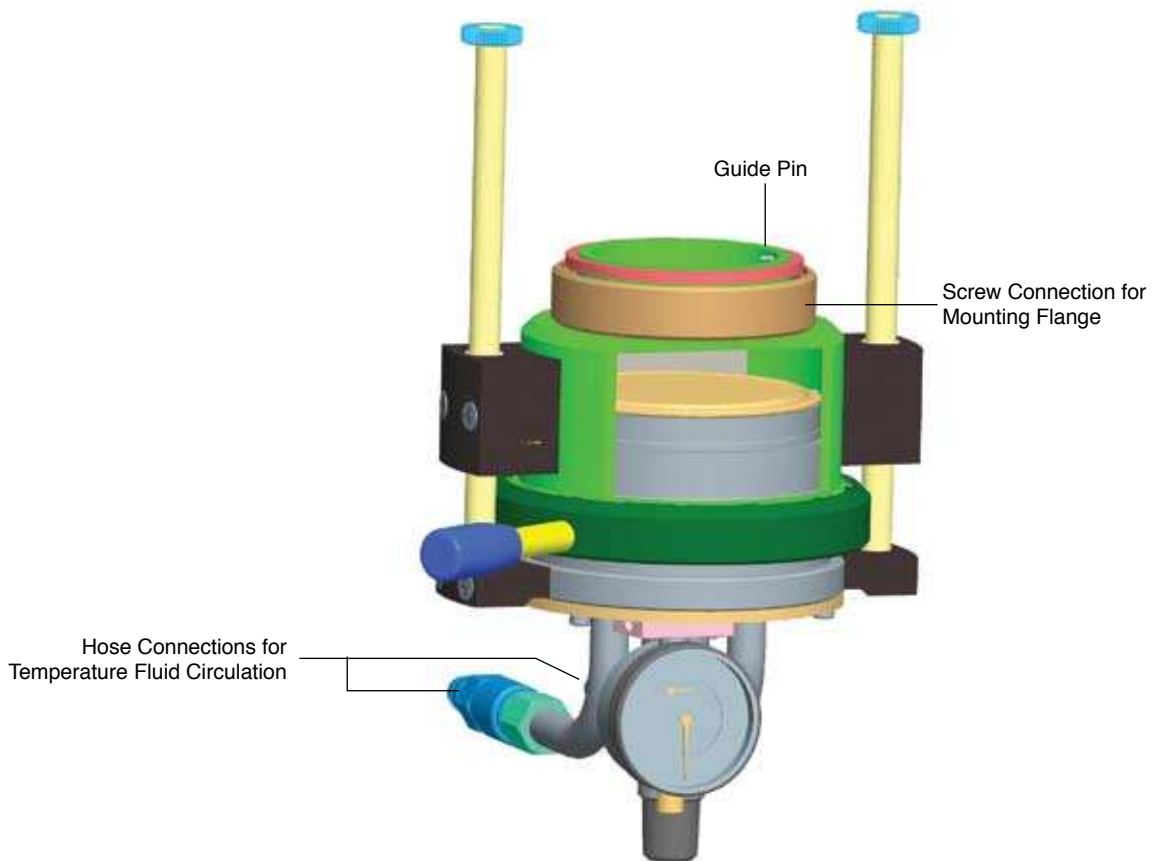

Fig. III-7: Measuring Device CONE/PLATE ATTACHMENT for cone/plate and plate/plate systems
- Set the “CONE/PLATE ATTACHMENT” from below on the mounting flange and tighten the thread. Check that before tightening the guide pin of the measuring device (see Fig. III.7) must be in the slot of the R/S+ mounting flange!